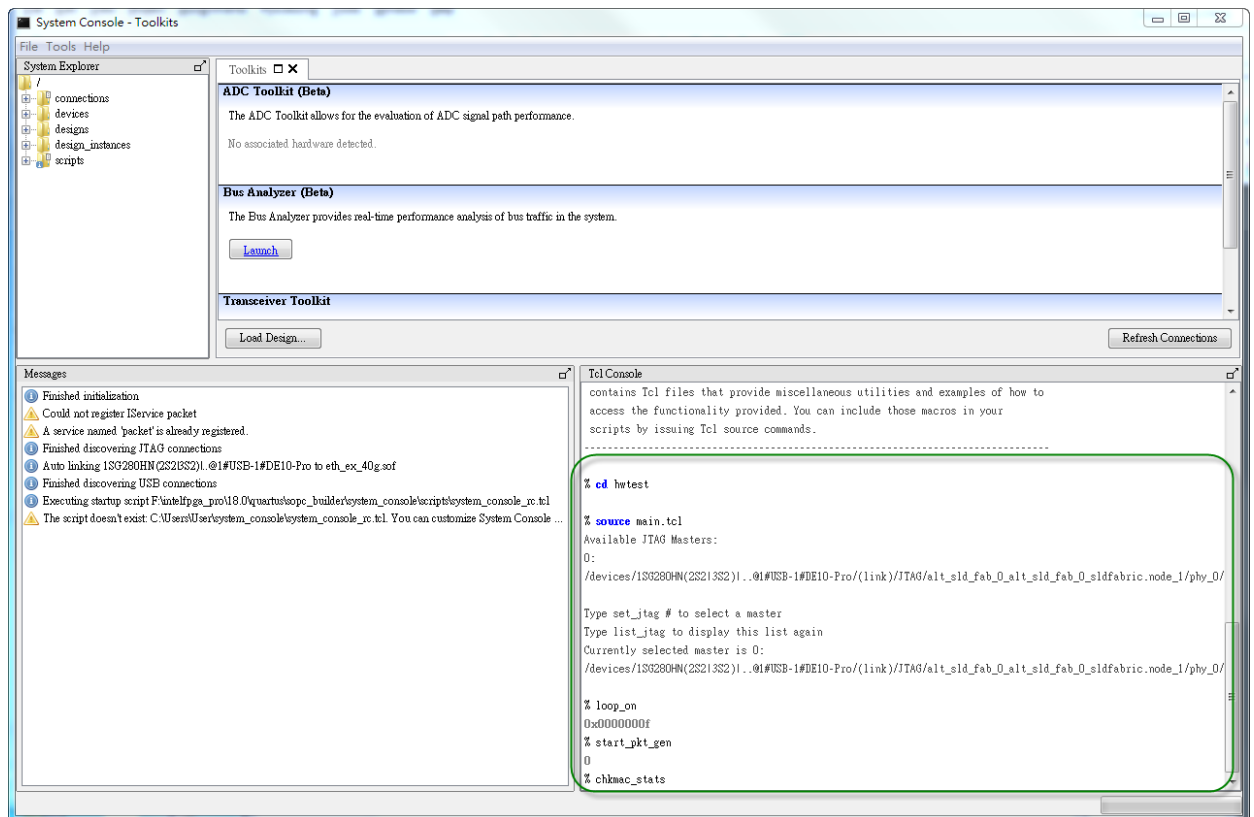

Figure 9-11 Launch the System Console for Ethernet 40G Demo
6. In the Tcl Console pane, type "cd hwtest" to change directory to the folder: `./alt_s40/hardware_test_design/hwtest`. Then, type "source main.tcl" to open a connection to the JTAG master as shown in **Figure 9-11**.